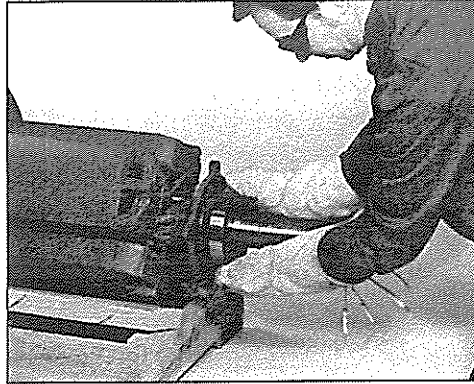

Figure 6-39
4. Heat the new bearing in an oven to a maximum temperature of 212°F (100°C). Apply a thin coat of clean lubricating oil to the press-fit area of the rotor shaft. Using suitable heat resistant gloves, install the bearing over the end of the shaft until it seats against the shaft shoulder (figure 6-39). The bearing should slide on the shaft and be seated without excessive force. If the bearing binds on the shaft before being fully seated, a piece of tubing, slightly larger than the press-fit area, can be used to drive the bearing into place. Using light taps with a soft mallet, apply pressure to the inner race only.